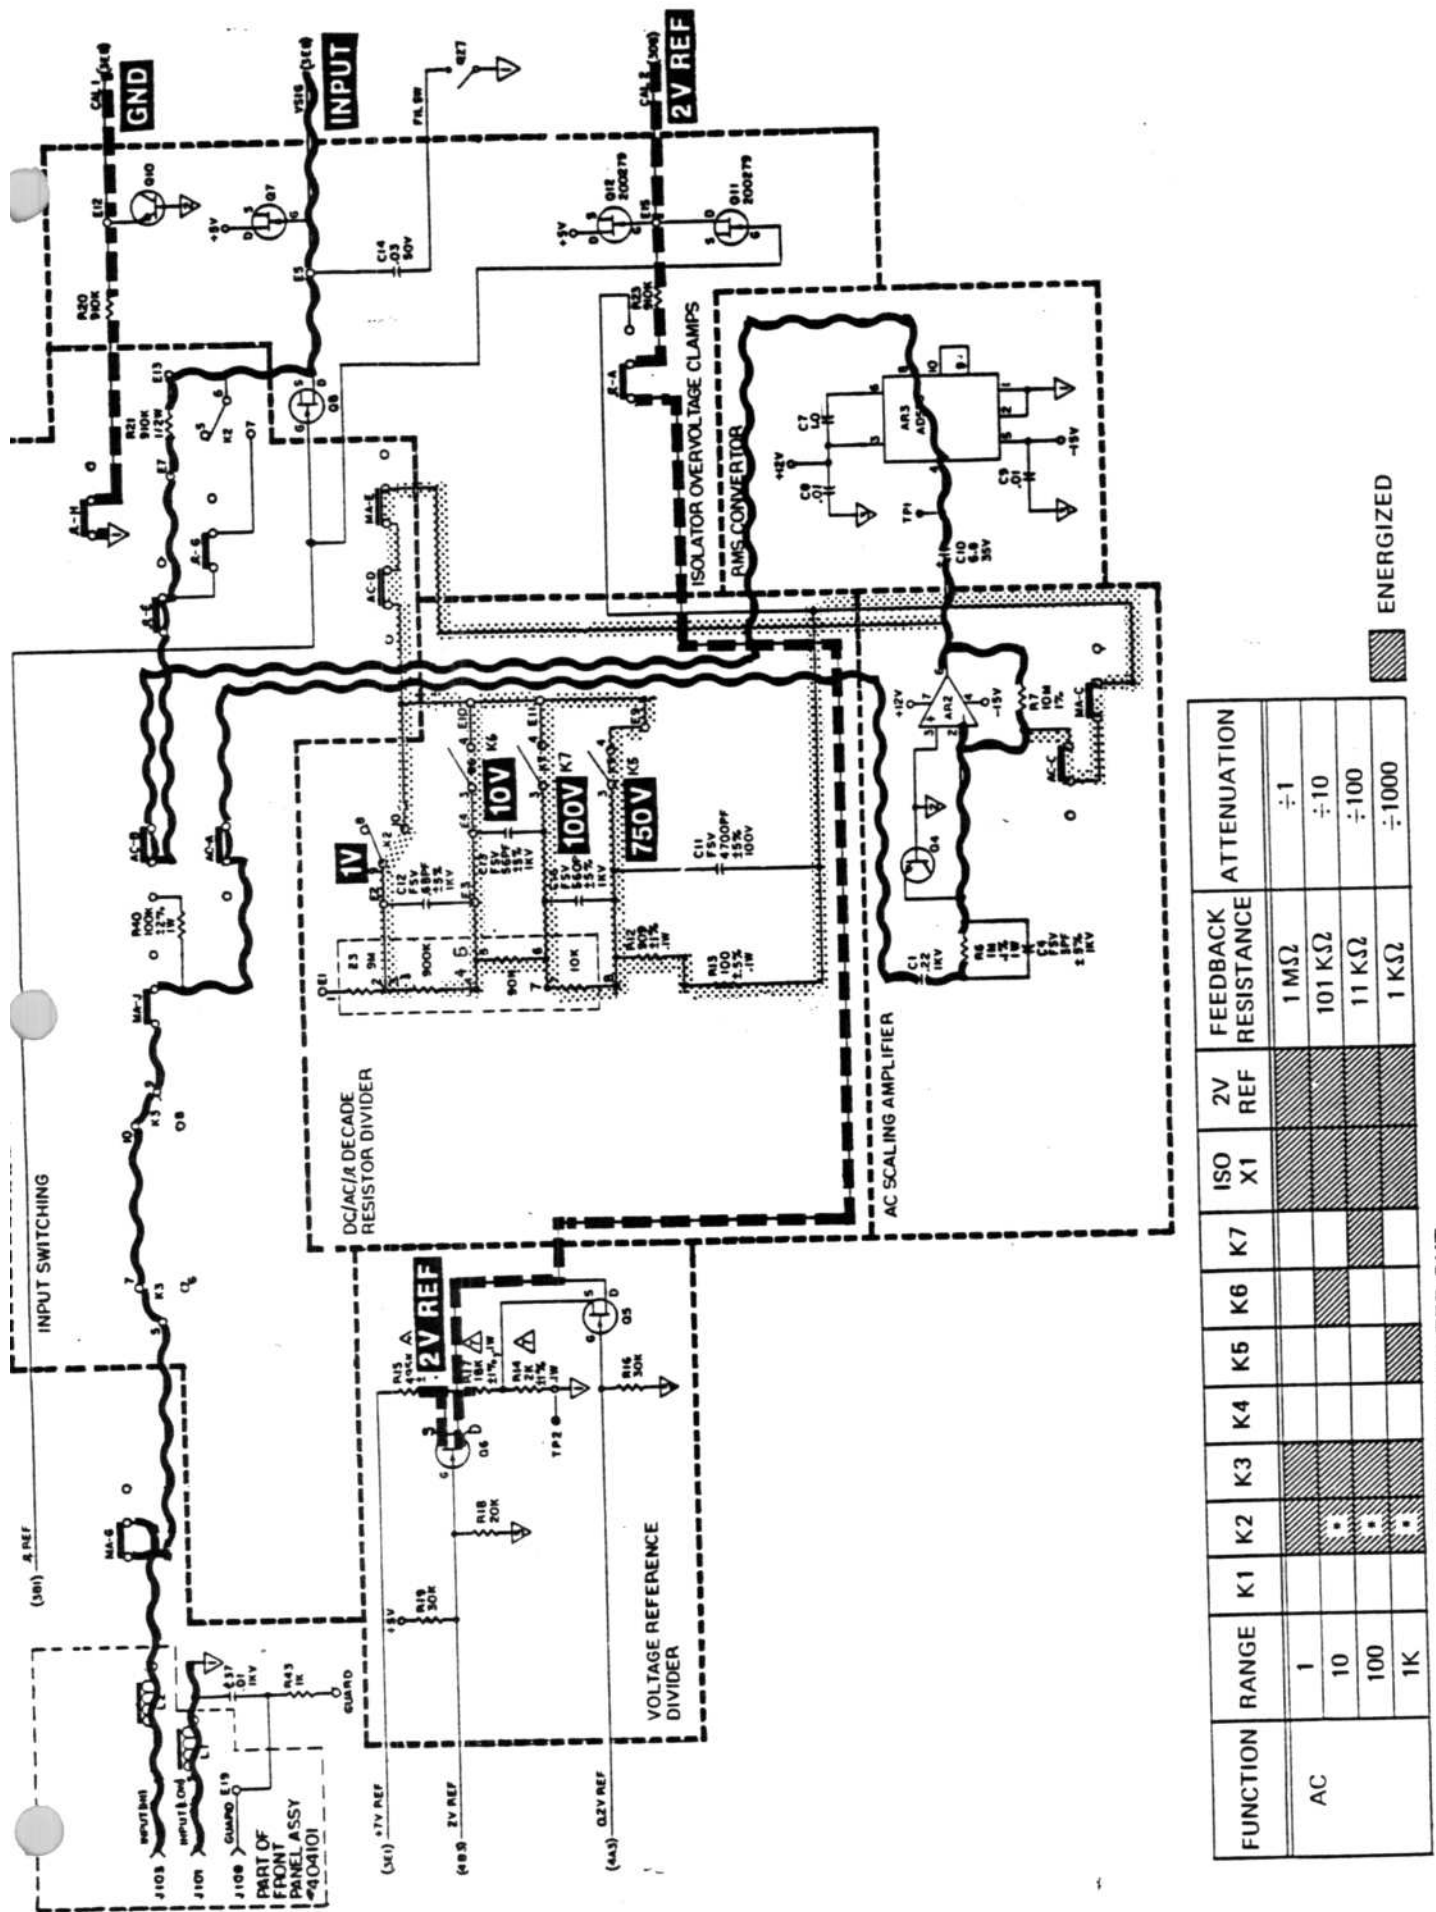
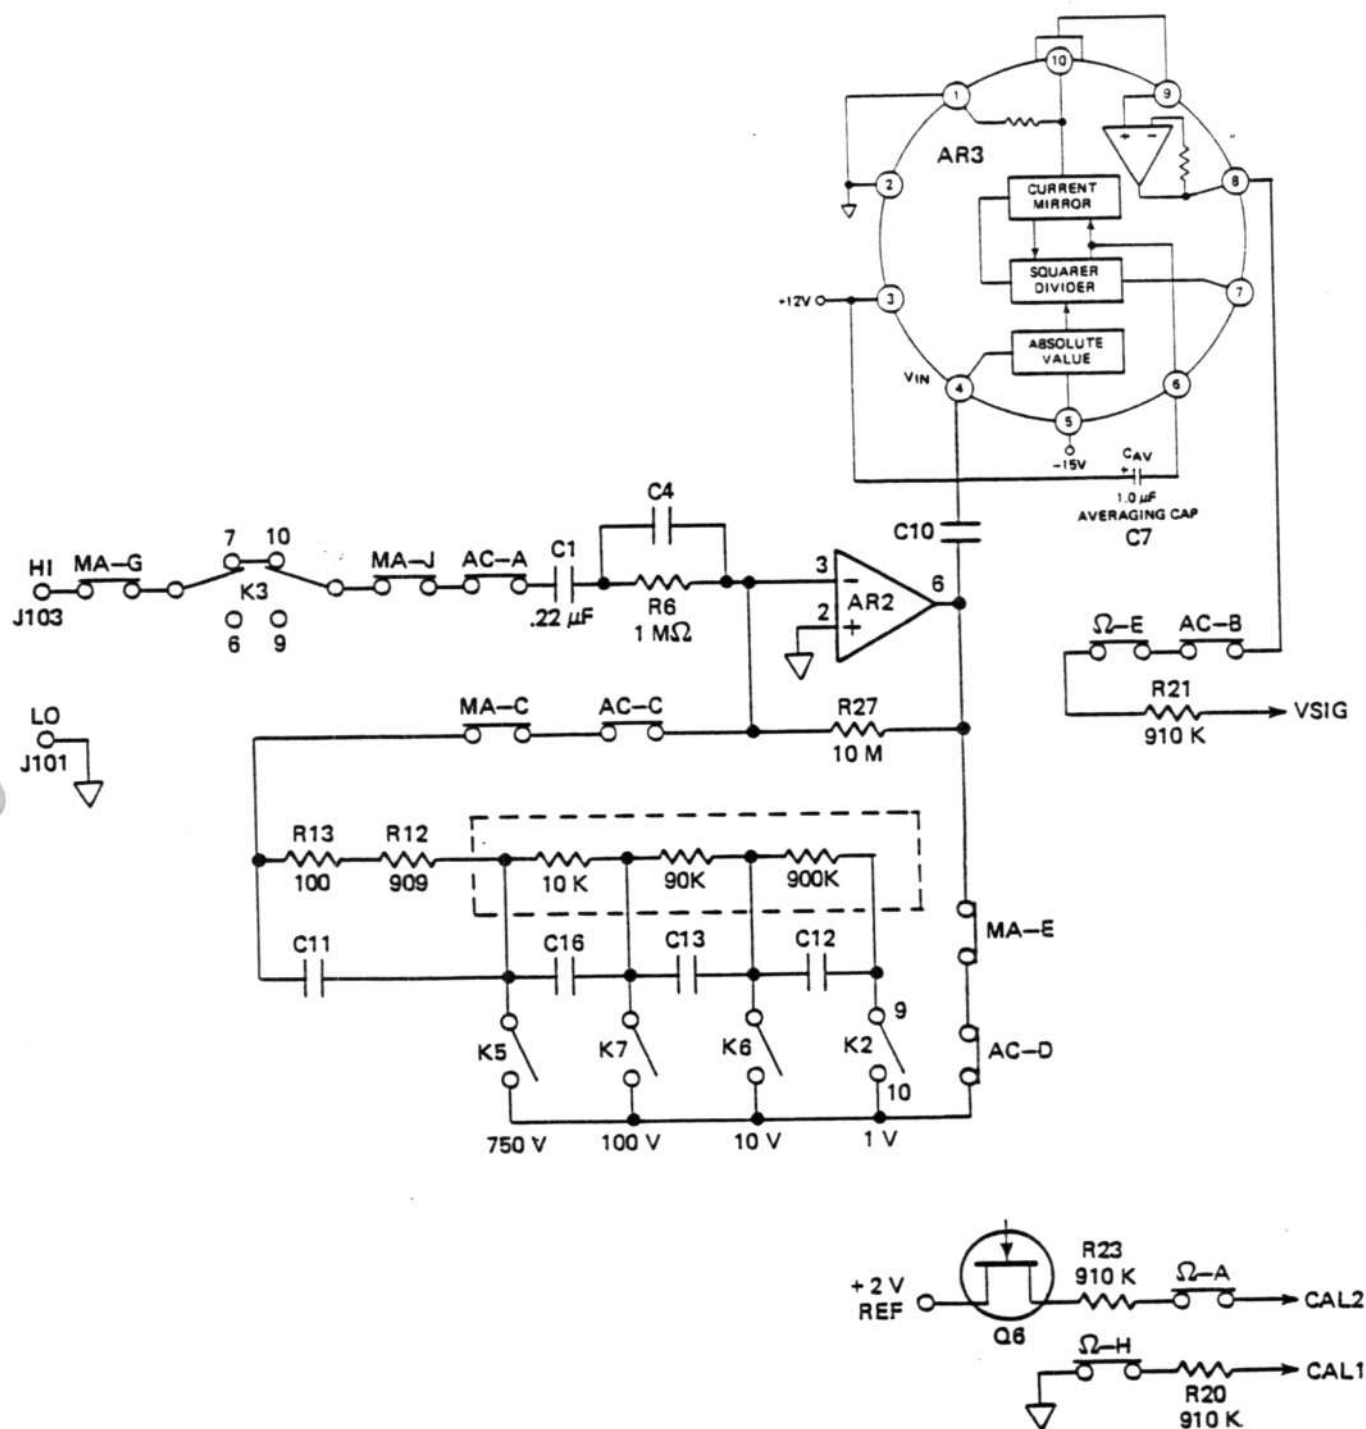

Figure 4.6 - 5001 VAC Input Path with Schematic
Figure 4.7 - 5001 VAC Front-End Diagram
4.4.3.2 Refer to Figure 4.6 which shows a simplified VAC input signal path with schematic and Figure 4.7 which provides a VAC front-end diagram. When the AC Volts function is selected, the input measurement signal applied to the HI and LO INPUT terminals is routed through switches MA-J and AC-A to C1, the DC blocking capacitor. The measurement signal then is applied to the input of AR2, the AC scaling amplifier. AR2 delivers two volts AC full scale, for all ranges, to the RMS converter which produces a two-volt DC full-scale output. This DC output from AR2 is routed to the isolator input as VSIG through switches AC-B and Ω -E.